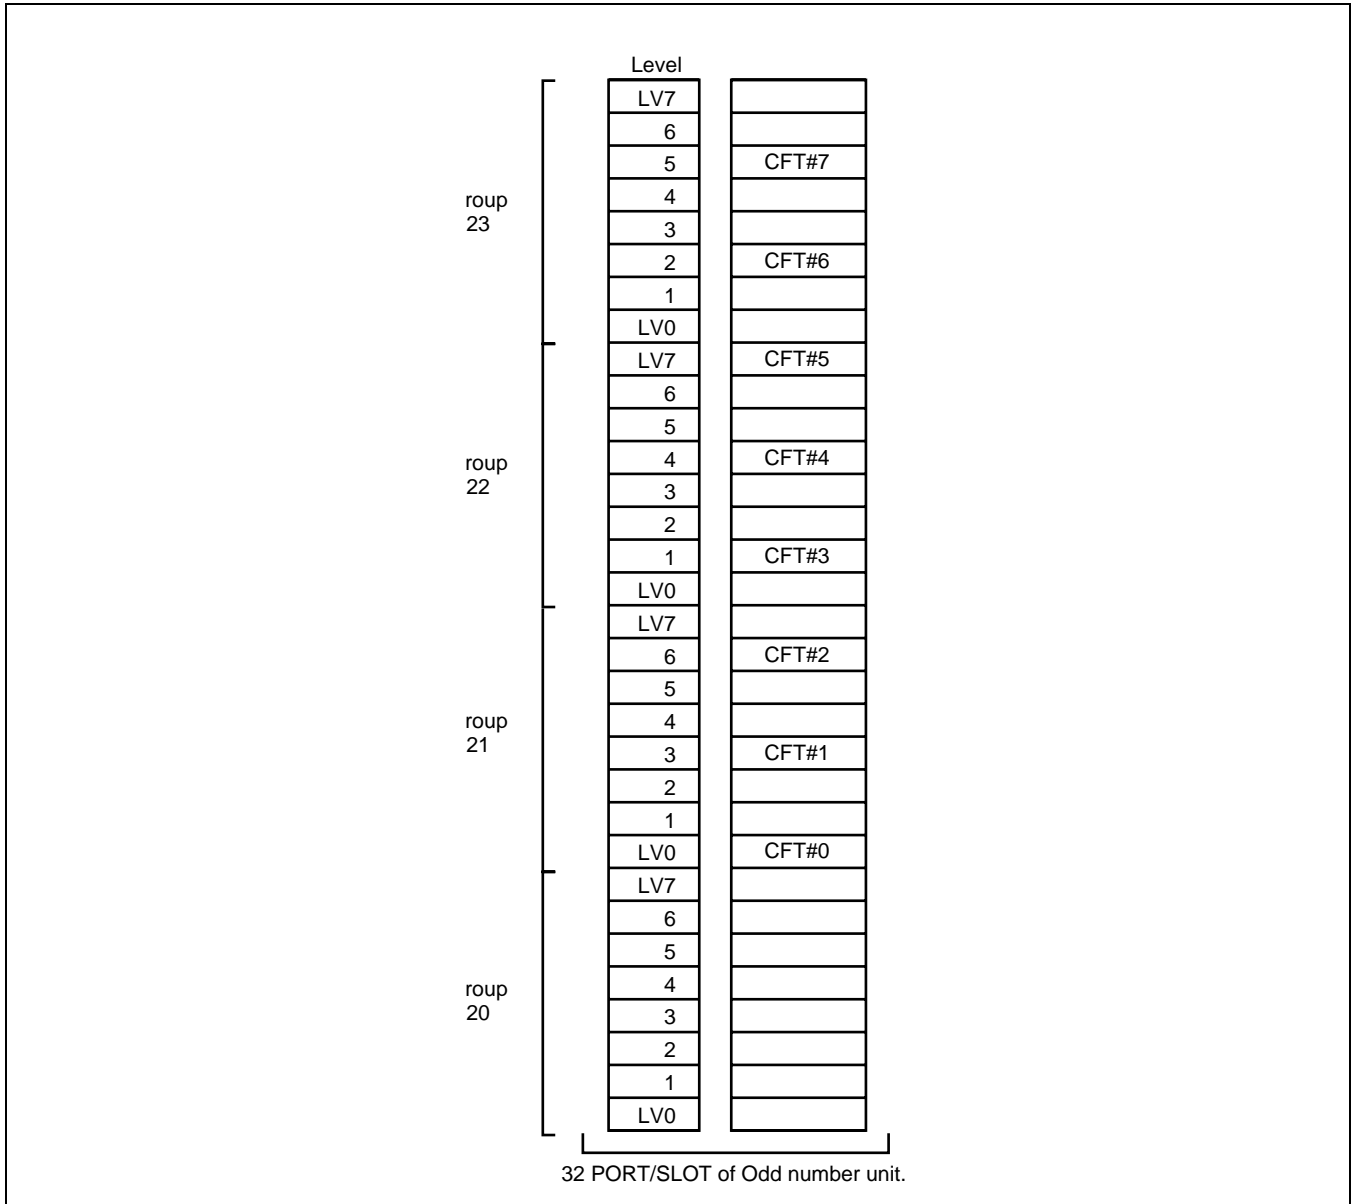

Figure 4-27 ATRK for CFT (3-Party Conference)
7. When you enter the LENS, you should consider the port appearance of the trunk circuit card, which is shown in Figure 4-19 through Figure 4-27. The Group number (G) of LENS and the PCM highway running are illustrated in Figure 4-18.